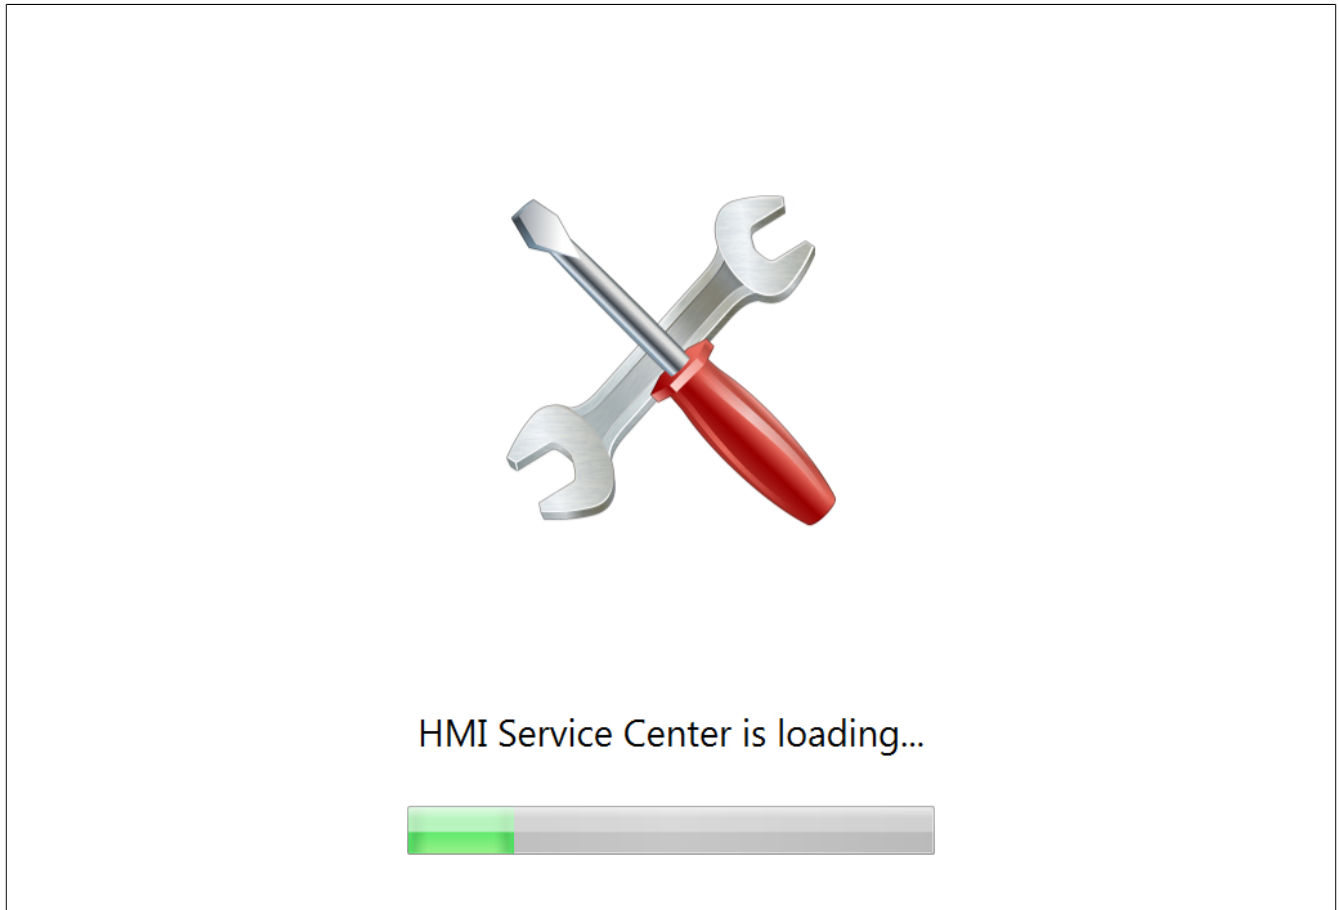

Figure 1: Boot screen
5. Windows PE is booted and the HMI Service Center boot screen appears (see Fig. 1 "Boot screen").